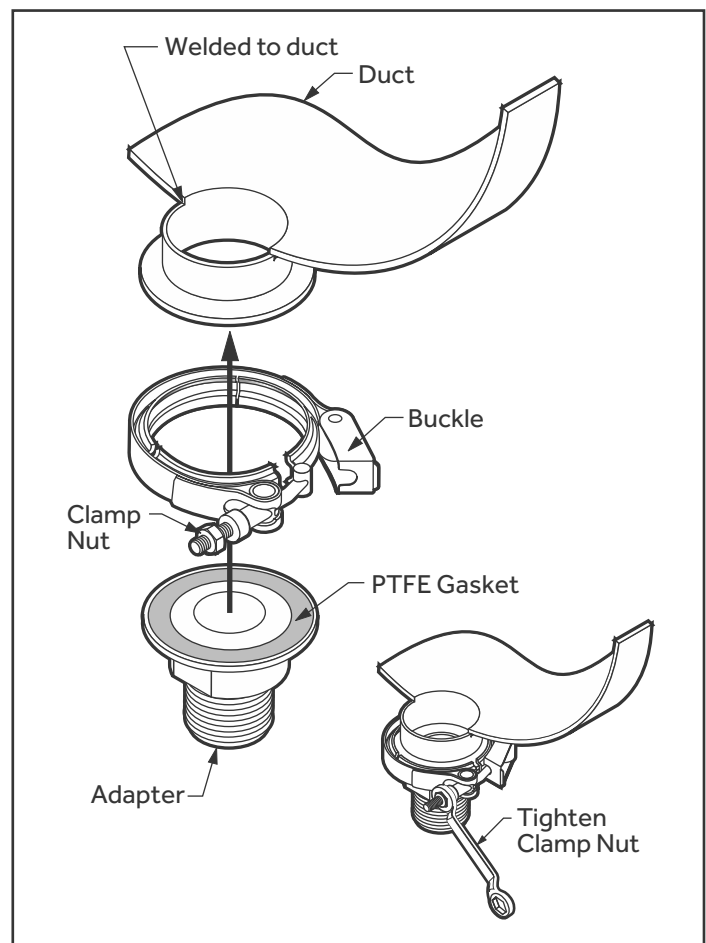

Fig. 50: Fab-Tech Flange Assembly
5. Torque Clamp Nut: Final tightening must be done with a calibrated torque wrench. The recommended torque for 2" (50.8) & 3" (76.2) EZ clamps is 75 in lbs (6.25 ft lbs or 0.9 m kg). (Fig. 50)